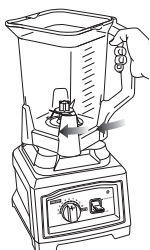

Fig. 2
- 4 Rotate the pitcher clockwise until it locks in place. (Fig. 2) You will hear a click when the lock is engaged.